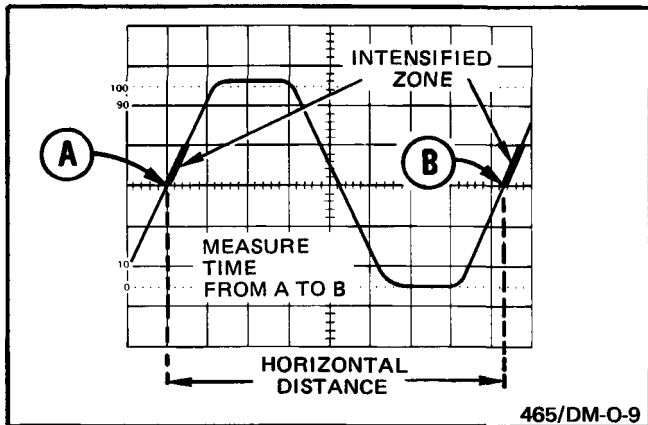

Fig. 2-12. Time duration between points on a waveform.
1. Set the A TIME/DIV switch and the horizontal POSITION control to locate both time measurement points within the graticule area (see Fig. 2-12).
4. Use the DELAY TIME POS (DTP) control to move the left edge of the intensified zone to just touch the first time measurement point (see Fig. 2-12, point A). Note the DTP control setting.
5. Use the DTP control to move the left edge of the intensified zone to just touch the second time measurement point (see Fig. 2-12, point B). Note the DTP control setting.
The A TIME/DIV switch was set to 2 ms and the B TIME/DIV switch was set to 0.1 ms. The first DTP control setting was 1.23 (at point A, Fig. 2-12) and the second was 9.56 (at point B, Fig. 2-12).